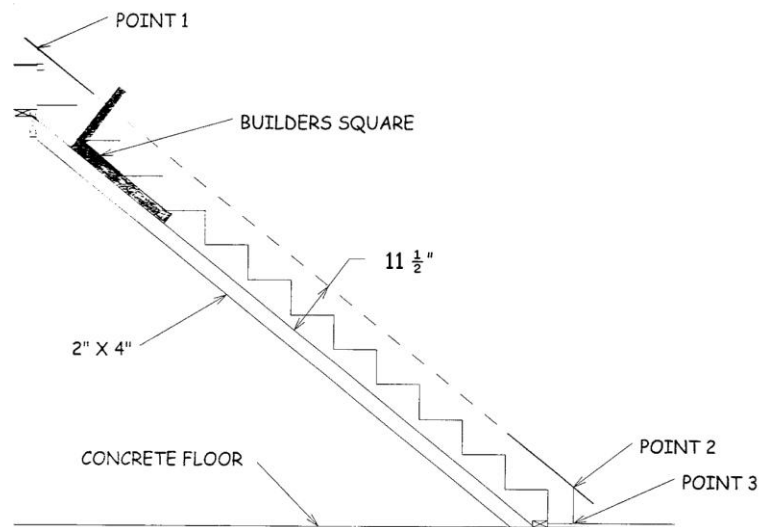

Figure 16-3. Skirtboard Installation.
5. Lay the 24" side of a framing square on the 2x4. Make two marks 11½" up from the 2x4 (the width of the skirtboard) about 3' apart at each end of the stairway (see Figure 16-3). Repeat on the other side of the stairway.
6. Place a 6' level on the two marks at the top of the stairway (from Step 5) and scribe a line across the two marks to a point that intersects the plumb lines from Step 3. This creates Point 1, which must be at least 3" above the floor to be higher than the floor trim (see Figure 16-3). Then, using the two marks at the bottom of the stairway (from Step 5), draw a line to a point that intersects the plumb line. This intersection is Point 2 (see Figure 16-3). Repeat on the opposite side of the stairway.